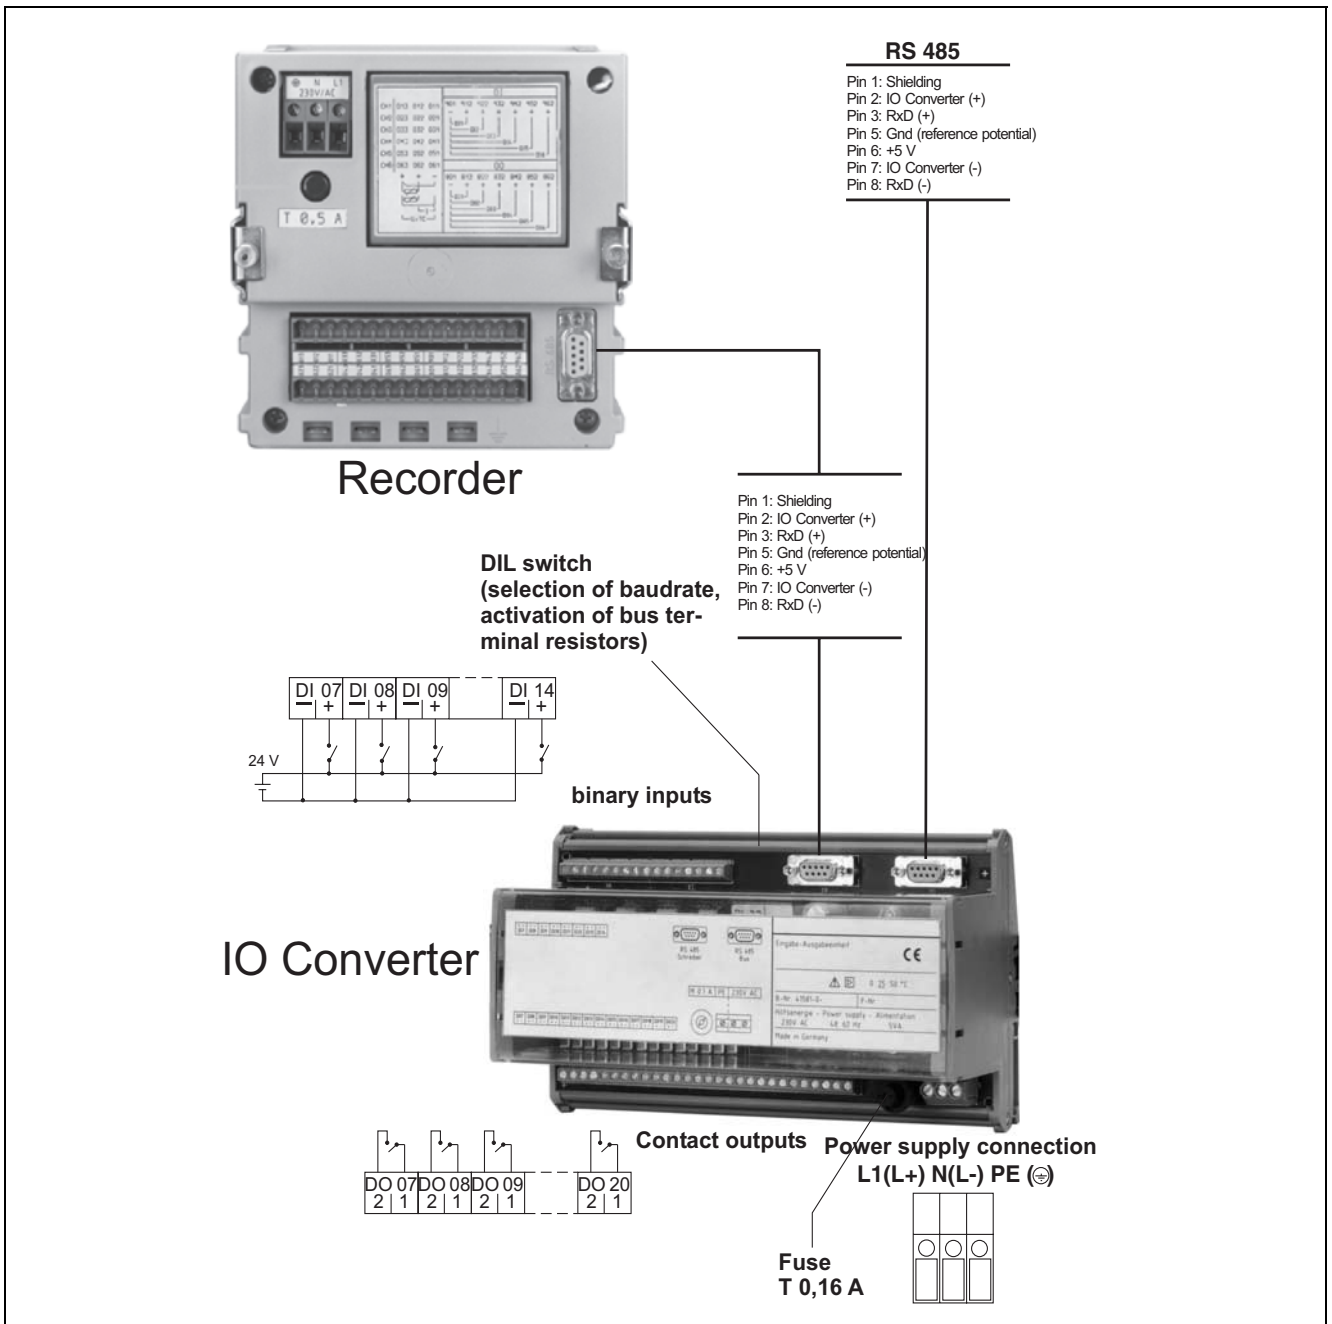

Fig. 3 Connecting an IO converter
1. Match the IO converter with the DIL switch to the type of recorder (see also fig. 3):
2. Connect the recorder with the standardised cable (see also fig. 3).
3. Connect signals to the screw terminals (maximum cross-section $2 \times 1 \text{ mm}^2$) (see also fig. 3).